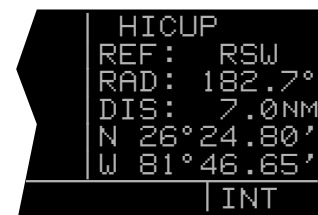

Figure 5-67
1. Use the right outer knob to select **INT** or **SUP** type waypoints, as appropriate (figure 5-67).